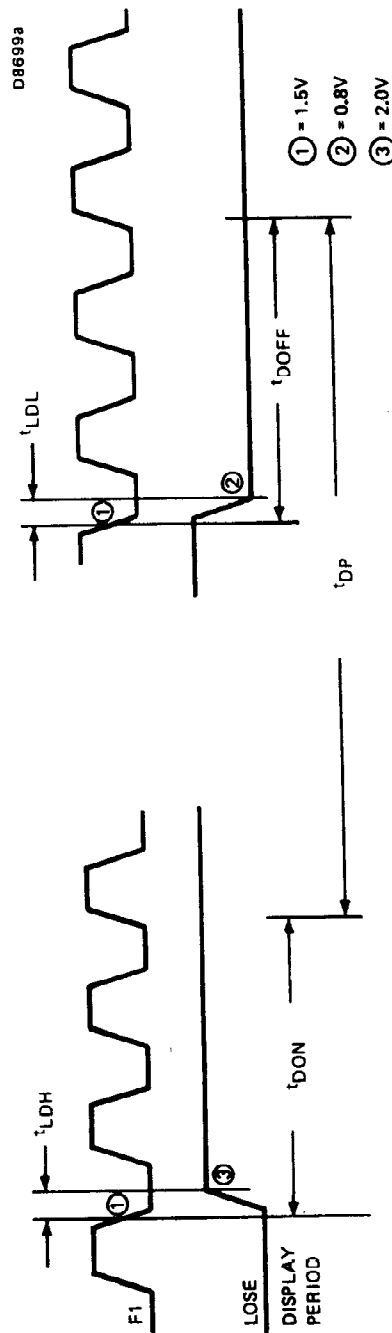

Fig.5 Display period timing (for typical 40 character display)
**Display period timing (Fig.5)**
3. Valid during display period only (see Fig.5) otherwise no character or background information is displayed as blanking is determined by the Picture On. (No blanking if PO = '1').